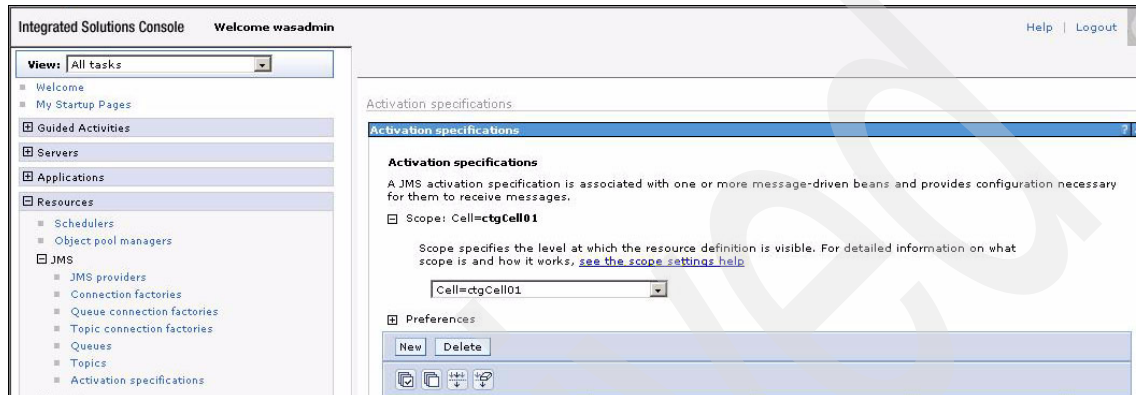

Figure A-43 Activation specifications
1. From the **WebSphere Administrative Console**, click **Resources** → **JMS** → **Activation specifications** (see Figure A-43).